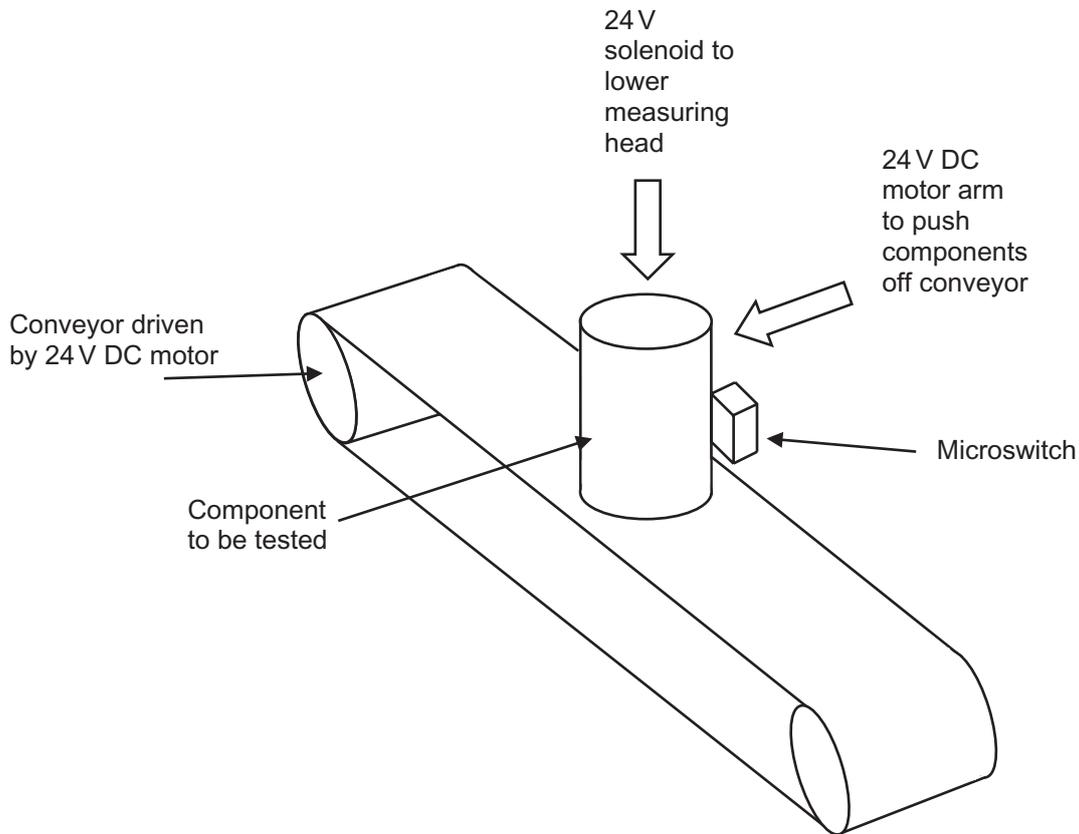

Fig. 2(d)
- A 24 volt solenoid is then to be activated which will bring the measuring head down on the component. After a time delay of 0.25 seconds to allow the reading to be taken by the circuit in **Fig. 2(c)**, the solenoid should retract.